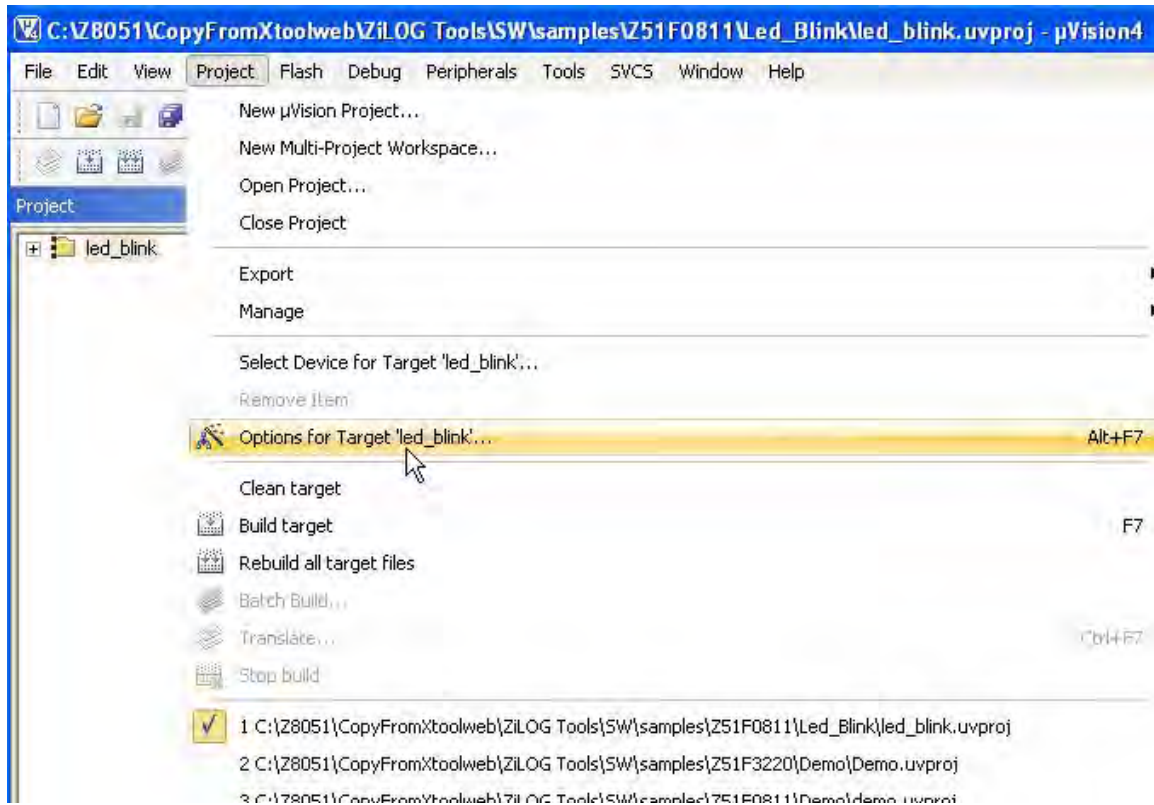

Figure 6. Selecting The Project Options
1. Highlight the led\_blink item in the left-hand pane of the uVision window. Then, from the list of menus at the top of the window, select **Project** → **Options** for the led\_blink target, as indicated in Figure 6.